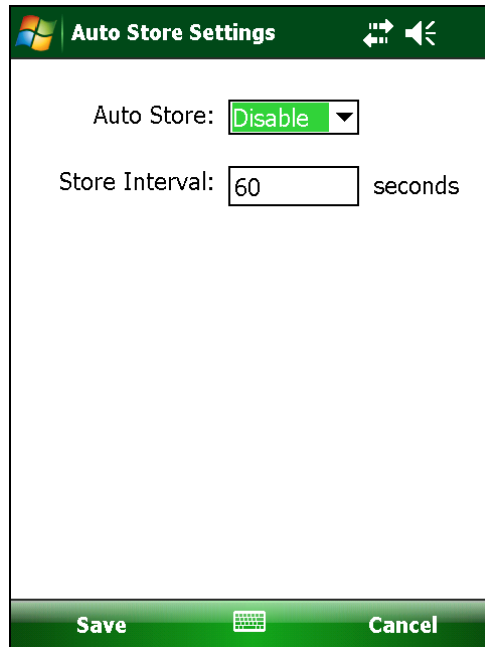

Figure 33- Auto Store Settings
**Auto Store** – Allows multiple readings to be taken over time. Select “Auto Store: Enable” (see Figure 33) as well as an interval in seconds to enable readings to be stored periodically without intervention from the user. At any time this feature can be turned off by selecting “Auto Store: Disable” and tapping “Save”.